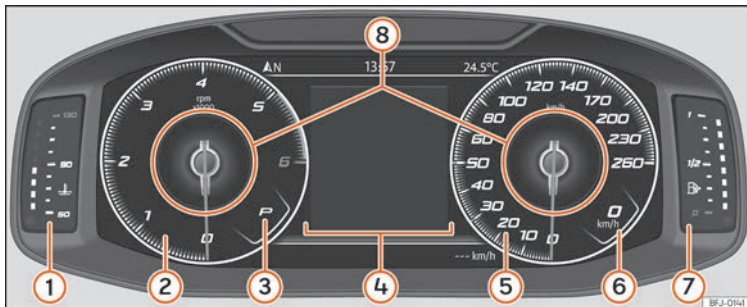

Fig.71 SEAT Digital Cockpit on the instrument panel (classic view).
In *Classic View* and *Semicircular watches* it is possible to customise the information displayed under **Information Profiles** » **Fig.71 ⑧**.
»» Fig. 71.